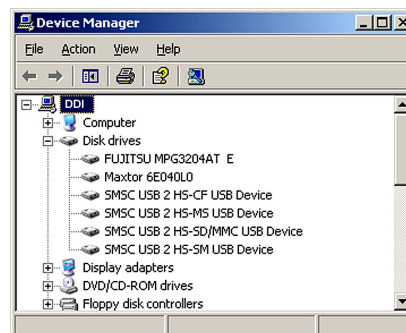

Figure 8
6. The card slots will be listed as *SMSC USB 2 HS-CF USB Device*, *SMSC USB 2 HS-MS USB Device*, *SMSC USB 2 HS-SD/MMC USB Device* and *SMSC USB 2 HS-SM USB Device*. (See Figure 8)